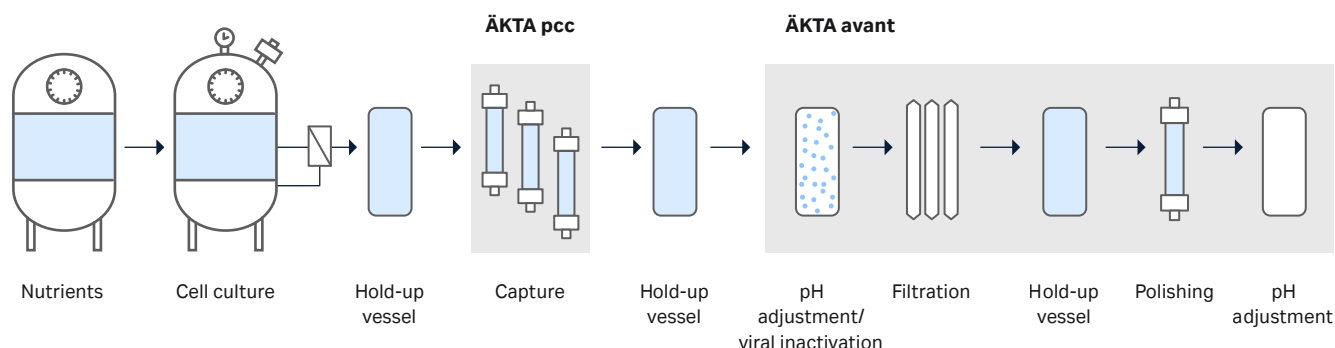

Fig 15. Schematic overview of the connected and integrated process, with hold-up vessels placed between the different unit operations.
Another example of a semi-continuous process is described in the application note Integrated semicontinuous mAb production KA4441140818AN. Here, a demonstration of how different unit operations in a laboratory-scale monoclonal antibody (mAb) process can be connected and integrated into a semi-continuous process is described. In brief, the mAb process consists of perfusion cell culture, continuous capture chromatography, viral inactivation (VI), post VI filtration, batch polishing chromatography, and a final pH adjustment step (Fig 15).